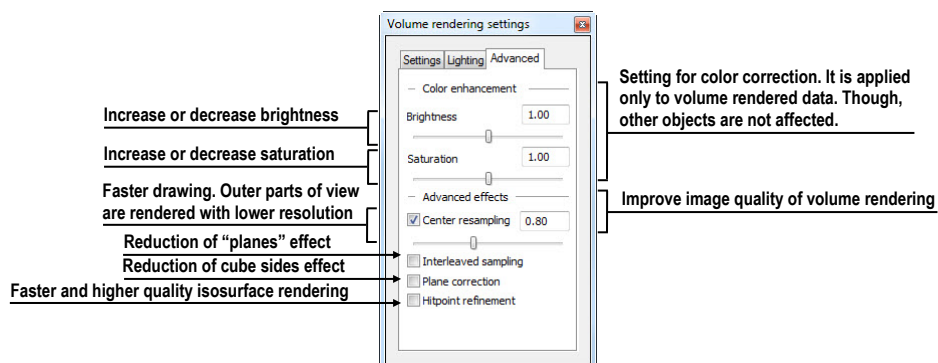

Figure 228 – Volume rendering settings, the third tab
- settings for color corrections and advanced ray casting settings in the third tab (see Figure 228)